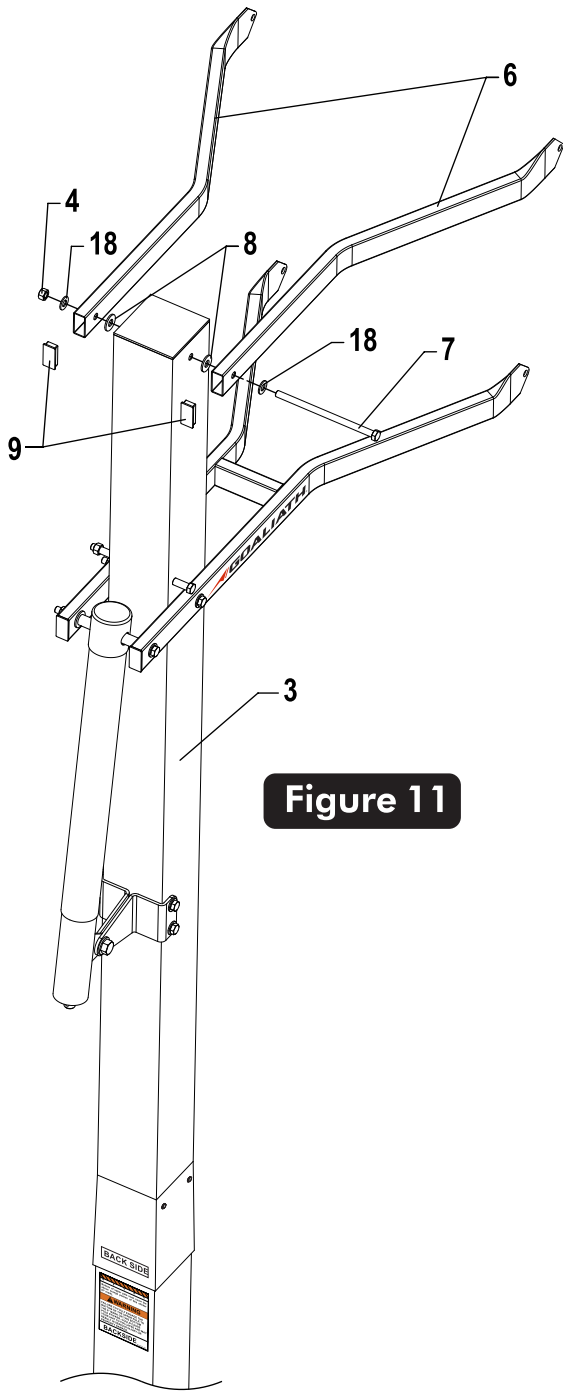

Figure 11
17. Attach of Upper Arms (#6) to Top Pole (#3), as shown in **Figure 11**, using a bolt (#7), two flat washers (#18), two spacers (#8) and one lock nut (#4).